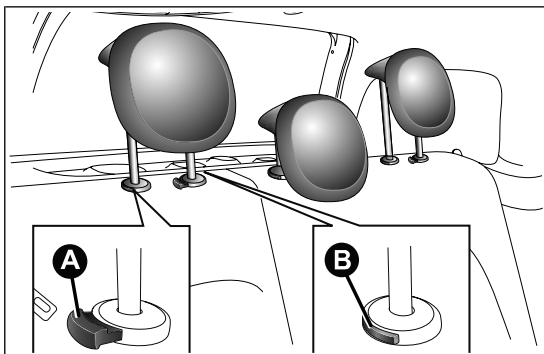

fig. 20
Downwards adjustment: press button A fig. 20 and lower the head restraint.
- ☐ press buttons A and B fig. 20 at the side of the two supports, then remove the head restraints by pulling them upwards.